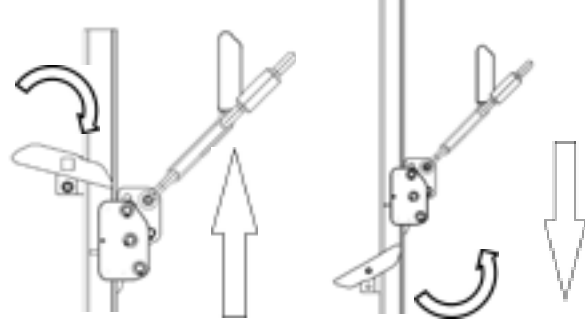

Fig. 18 Exiting the climbing arrester system
1. From the secured position, hold the safety-runner on the shackle (1) and on the base body (2) and swivel the lever of the end stops against the direction of action (Fig. 18) so that the safety-runner can pass over the position of the end stops and be guided out of the arrester rail.